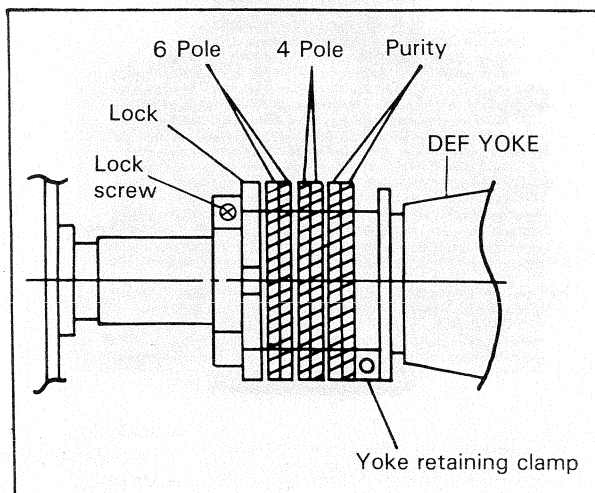

Fig. 2-2
- 2) As viewed from the back (See Fig. 2-2), turn the magnet lock counter-clockwise to loosen it.